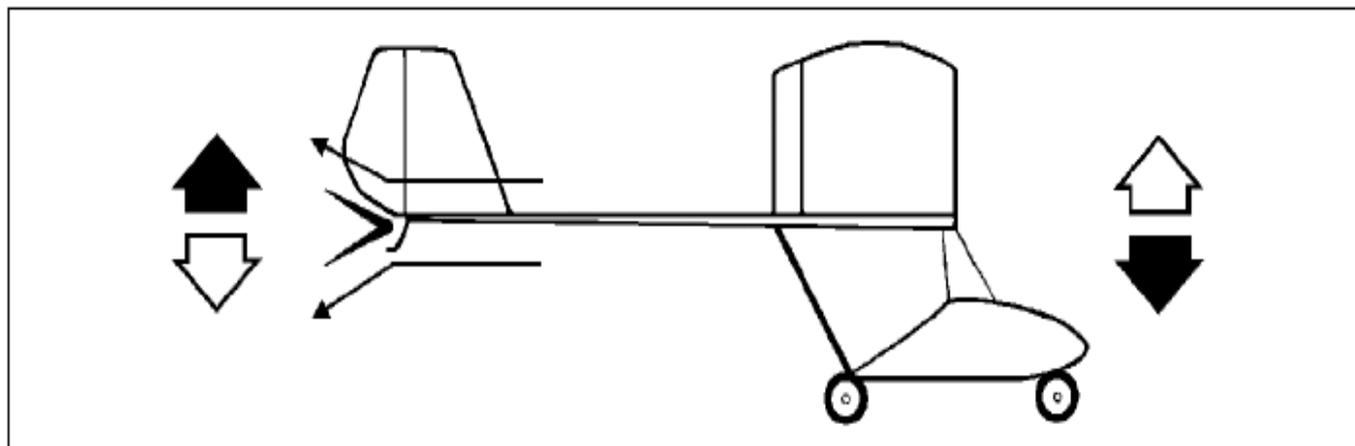

Fig. 15 Effect of Elevator.
- **Elevators:** The elevators control movement about the lateral axis, which is called pitch. The elevators are hinged to allow the surface to move up and down. On some aircraft, the entire horizontal tail surface may move, but usually it is only the aft portion that moves. The horizontal tail surface along with the elevators make up a single airfoil. Changing the position of the elevators therefore alters the camber of the horizontal tail surface and thus increases or decreases the lift it produces. The elevators are connected to the control stick and fore and aft movement of the stick moves the elevator surface. Moving the stick forward moves the elevator down, while aft stick moves the elevator up. Forward stick therefore increases the lift of the tail surface and causes the nose to pitch down. The elevators control the angle of attack of the wings. When the nose is lowered, the angle of attack is reduced. When the nose is raised, the angle of attack is increased. See Fig. 15.